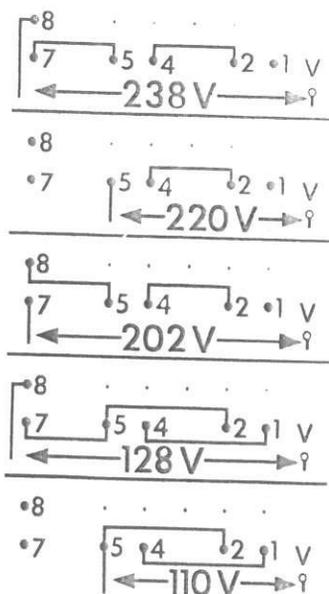

Fig. 3. Changing the primary connections of the mains transformer
- Change the primary connections of the mains transformer according to Fig. 3, a diagram of which is in the inside of side-plate.